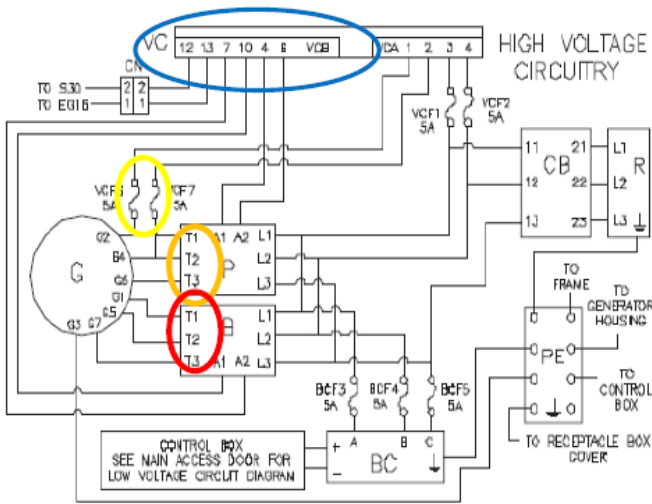

Figure 1
1. Disconnect the output plug on the voltage controller (identified in blue, Figure 1).
3. For the primary winding, measure primary phase voltages between the generator wires at the primary contactor (identified in orange, Figures 1 & 2):
6. For the boost winding, measure boost phase voltages between the generator wires at the boost contactor (identified in red, Figures 1 & 2):
10. Open fuses VCF6 and VCF7 at the fuse block (circled in yellow, Figures 1 & 2).
11. For the primary winding, check the resistances between the generator wires (listed below) at the primary contactor (identified in orange, Figures 1 & 2):
14. For the boost winding, check the resistances between the generator wires at the boost contactor (identified in red, Figures 1 & 2):
18. Open up all fuses (VCF1, VCF2, BCF3, BCF4, BCF5, VCF6 and VCF7) at the fuse block (identified in yellow, Figures 1 & 2)
20. To perform this test, connect the first lead of the megger meter to the ground plate and attach the second lead of the megger meter to the generator at the primary and boost contactors T1, T2, and T3 (identified in yellow and orange, Figures 1 & 2).